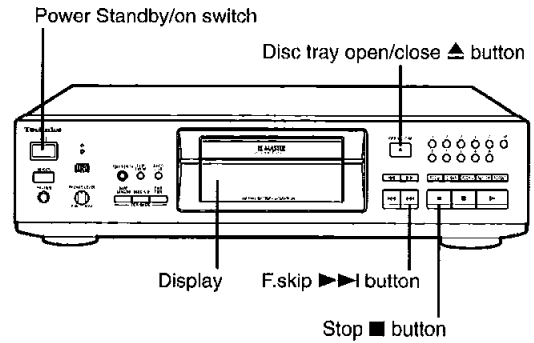

Fig. 7-3.
2. Press the Disc tray open/close button to open the disc tray, and load the test disc (SZZP1054C). Refer to Fig. 7-3.
3. Hold down the Stop button for more than 2 seconds, and then press the F.skip button for more than 2 seconds while continuing to hold down the Stop button. Refer to Fig. 7-3. (The symbol "C" is displayed on the display. It indicates the self-diagnostic function is activated.)
4. Press the Stop button. Refer to Fig. 7-3. The display will show an error code, if any. Refer to Table 7-3.